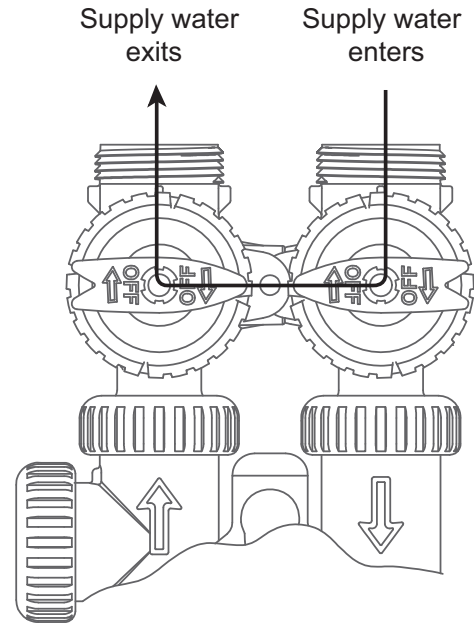

Figure 2 Bypass Position
2. **Bypass Position:** The inlet and outlet handles point to the center of the bypass. The system is isolated from the water pressure in the plumbing system. Untreated water is supplied to the building. Refer to Figure 2.